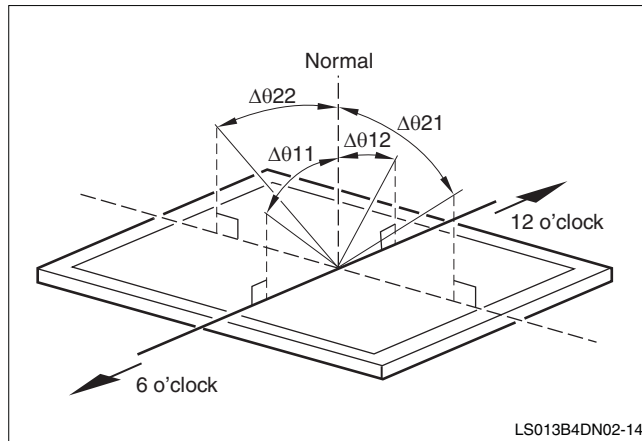

Figure 1. Viewing Angle
- Viewing Angle is described as clock positions: θ12 = 12 o'clock, θ11 = 6 o'clock, θ21 = 3 o'clock, θ22 = 9 o'clock. See Figure 1.